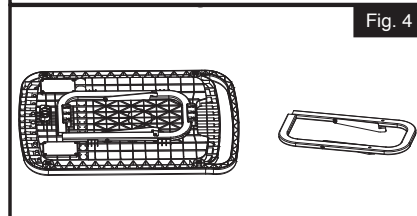

Fig. 4
6. Remove the tool tray frame from the underside of the tool tray by twisting the retainer towards the "ON" position and sliding the tool tray frame off. (Fig. 4)